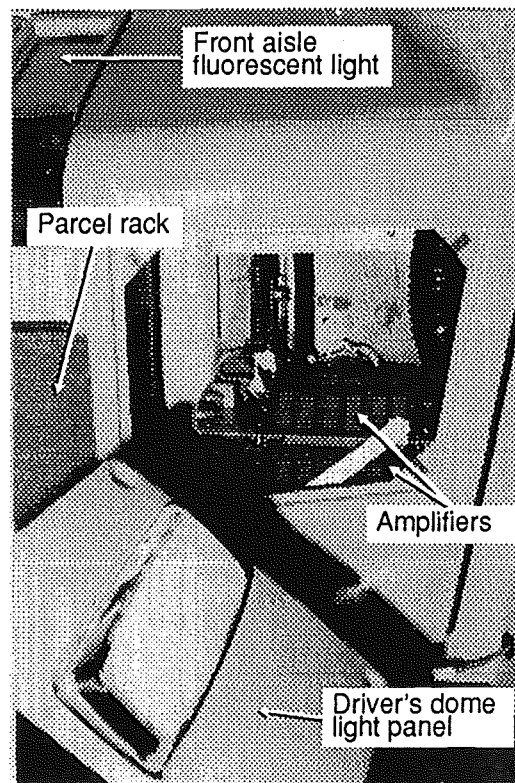

FIG. 4 - (View from under)
Two 80 watt amplifiers are provided for the sound system. Both are located over the driver's compartment and on front of the left parcel rack (see fig. 4). Remove the amplifiers as follows:
2. From the driver's compartment, locate the driver's dome light panel (see fig. 4).
3. Remove the four (4) snap caps and retaining screws from the driver's dome light panel, remove panel from its location and let it hang by the wires.